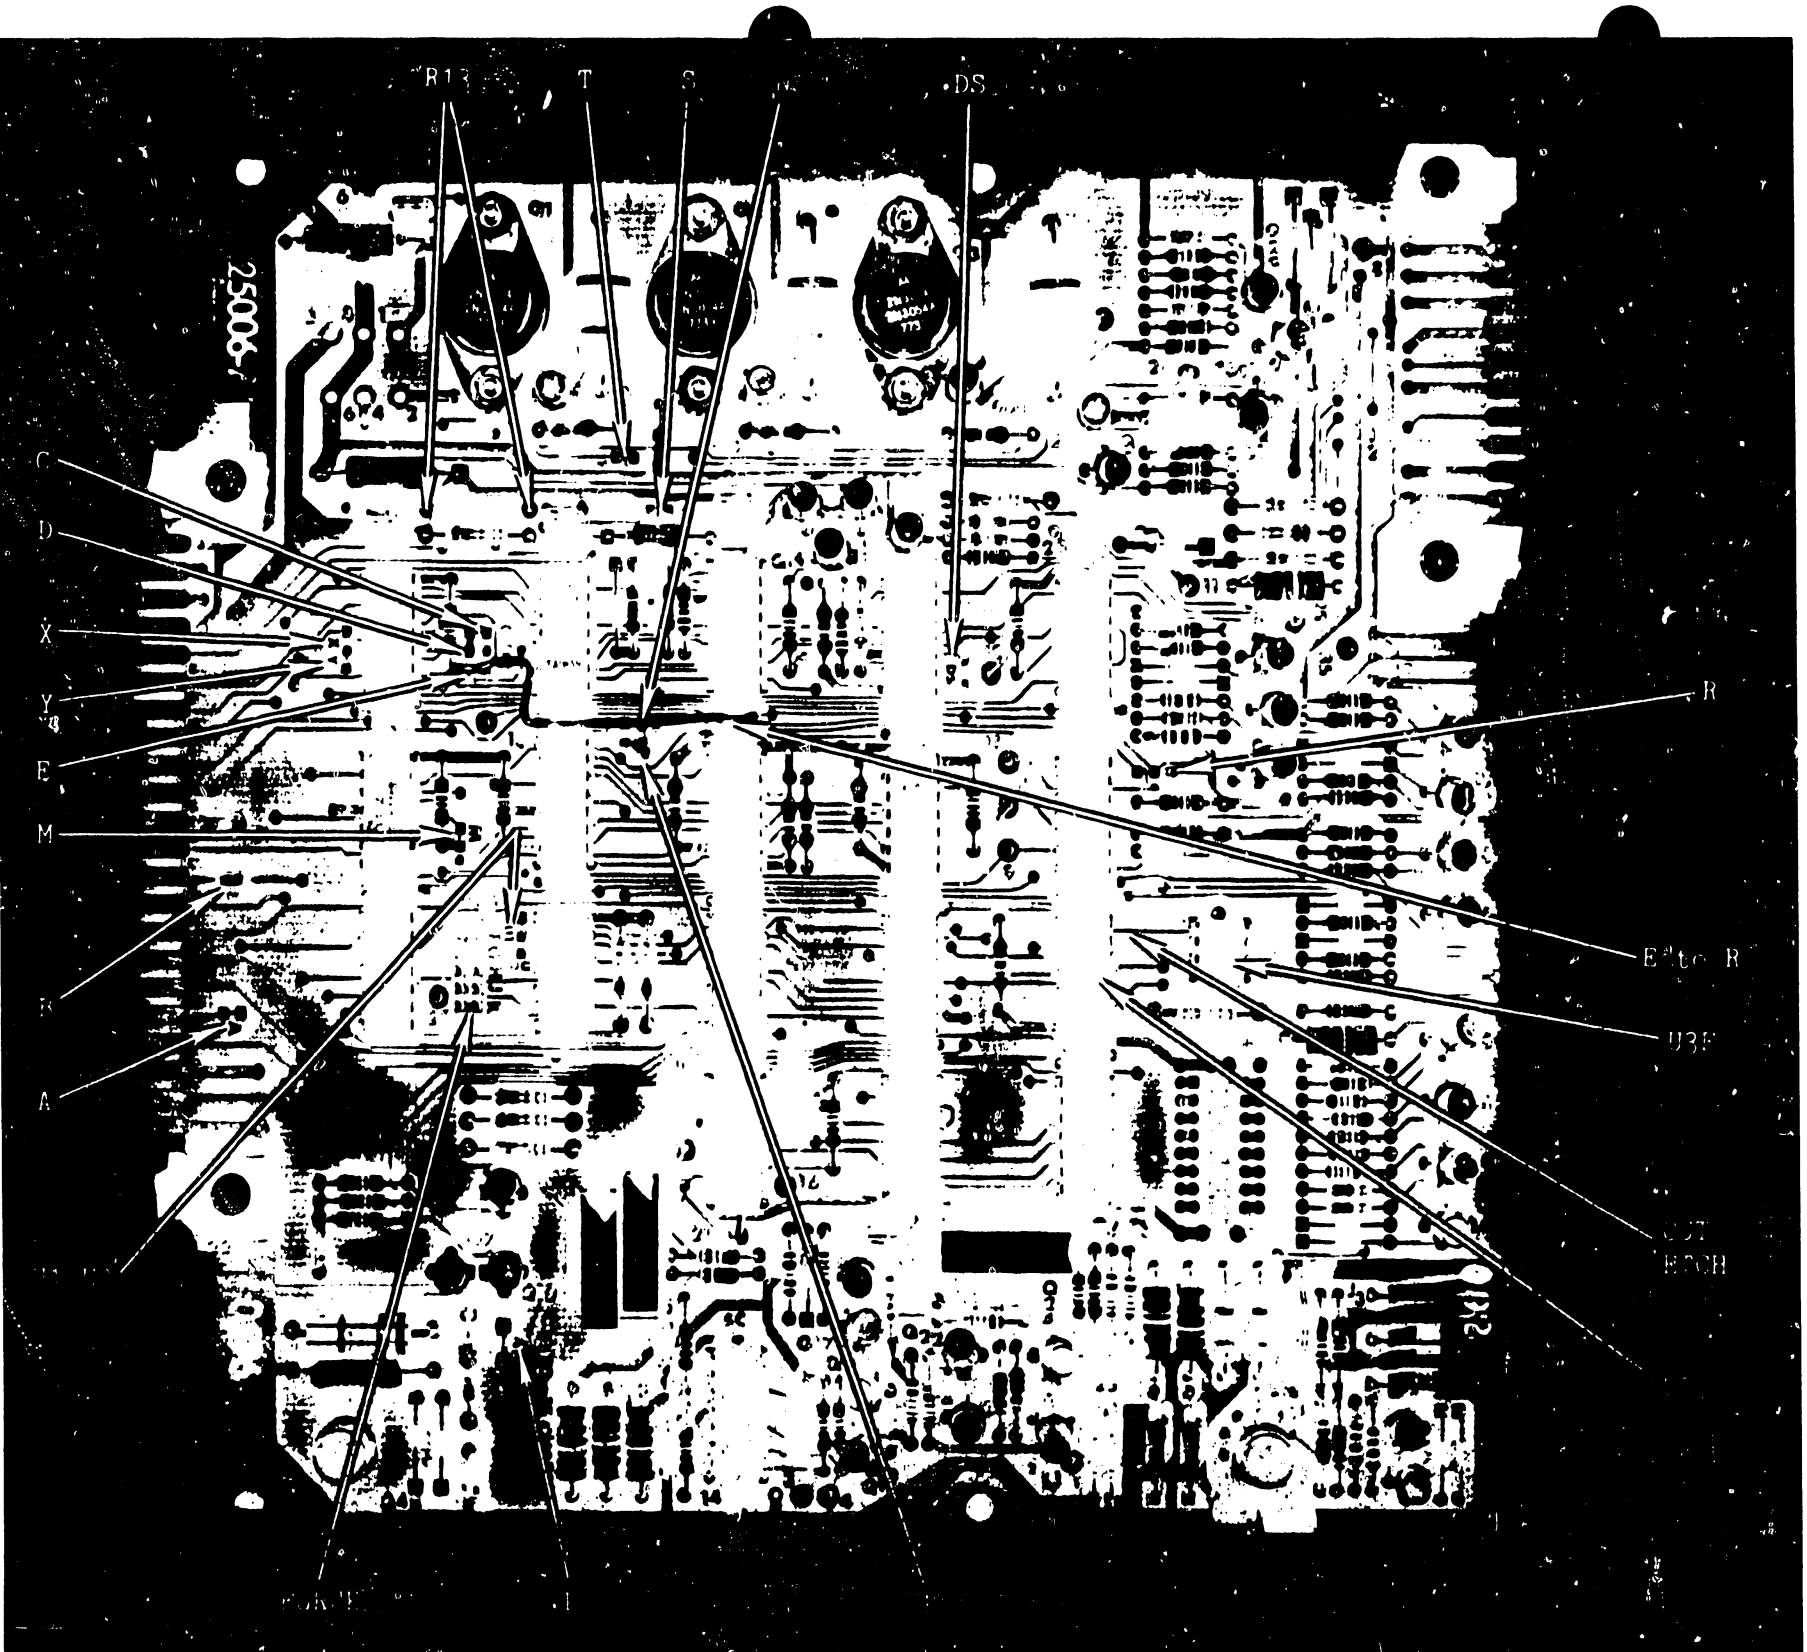

Figure 13 Logic Card Conversion P/N (726-1009)
- f. Cut the etch between U3E and U3F as shown in Figure 13.
Remove the jumper wire between E and R for VS operation. The jumper is only used for operation in the 2200 and the WPS to alter the head-loading circuitry. Cut the etch between U3E and U3F as shown in Figure 13, for conversion of the SA901 drive from WPS to OIS 140.